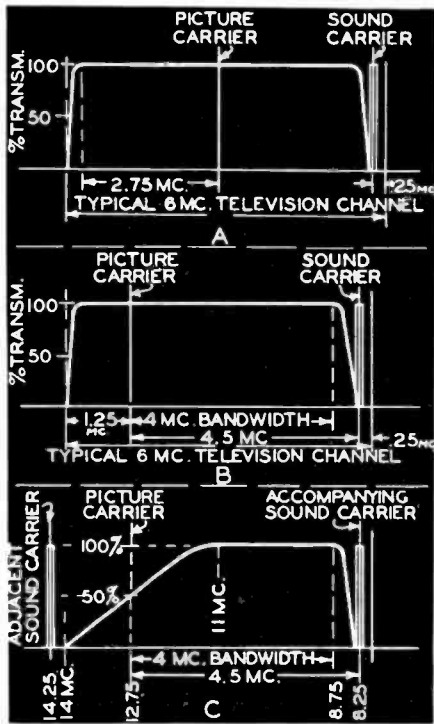

FIG. 1
THE band of six megacycles, allotted to a television station is a fixed maximum. Experiments are constantly being conducted endeavoring to increase the detail that can be transmitted over this channel. Out of one of these experiments evolved the system of vestigial sideband transmission. Vestigial sideband transmission broadcasts the carrier with the complete upper sideband but only a vestige of the lower sideband as shown in Fig. 1 (B). Conventional double sideband transmission is shown in Fig. 1 (A). A comparison between these two forms of transmission shows an increased transmission band from 2.5 mc. to 4.0 mc. with a 60% improvement in picture detail by the use of vestigial sideband transmission.
In order that the picture and accompanying sound could be tuned in by a single control on the receiver, a standard was established placing the sound carrier 4.5 mc. higher in frequency than the picture carrier [Fig. 1 (B)]. As an example let us suppose we tuned in the NBC television transmitter W2XBS, broadcasting a picture carrier on 45.25 mc. and a sound carrier on 49.75 mc., on a single control receiver. The picture and accompanying sound are independently transmitted from separate antennae atop the Empire State Building in New York City. Both picture and sound signals are picked up by the same receiving dipole antenna. Both signals pass thru the broadly tuned r.f. amplifier and first detector circuits together. The difference between a local oscillator operating on a frequency of 58 mc., mixed with the two signals in the first detector pro-
The picture i.f. (Pif) circuits are very broadly tuned to pass a band between 2.5 mc. and 4.0 mc. wide. There may be as many as five Pif stages in some of the large television receivers. The Pif transformers are a complex arrangement of coils, condensers and resistors to obtain the broad band and special response characteristic, required in vestigial sideband reception, Fig. 1 (C). The Pif response must be cut off at 8.25 mc. which is the accompanying sound i.f., and also at 14.25 mc., the adjacent sound i.f. channels, to prevent sound modulation of the picture, which would produce alternate light and dark horizontal bands in the picture. The Pif response must rise rapidly from 8.25 mc. to 8.75 mc. and remain flat to about 11. mc. The response should then slope gradually downward to 50% response at 12.75 mc., which is the picture carrier frequency, continuing the gradual downward slope to zero at 14.25 mc. This Pif response characteristic is required to prevent picture distortion when using vestigial sideband transmission. Therefore Pif amplifier adjustments are elaborate and complicated, requiring special equipment. It is therefore important that the manufacturer's service instructions be read carefully and understand them thoroughly before attempting any adjustments.